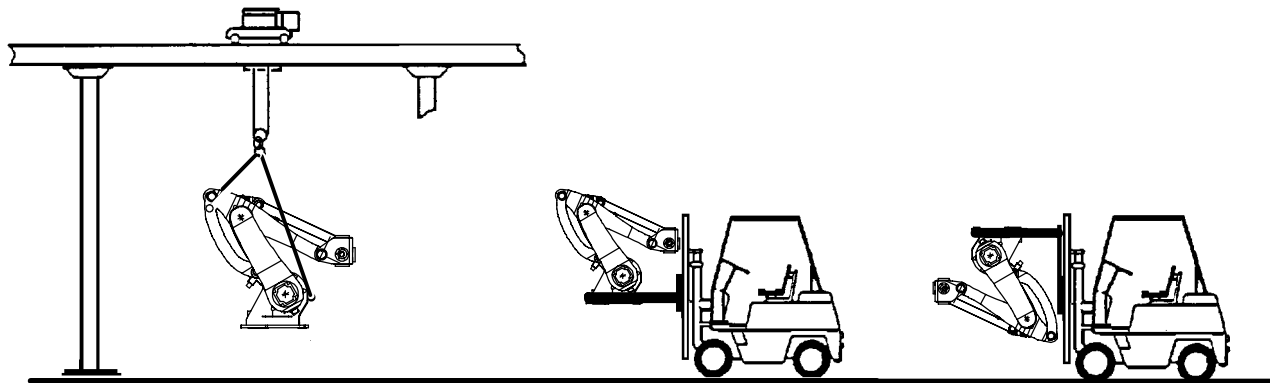

Fig. 30 Transporting floor-mounted and ceiling-mounted manipulators
- With lifting tackle and crane (Fig. 30, left-hand side)
- With fork lift truck (Fig. 30, right-hand side)